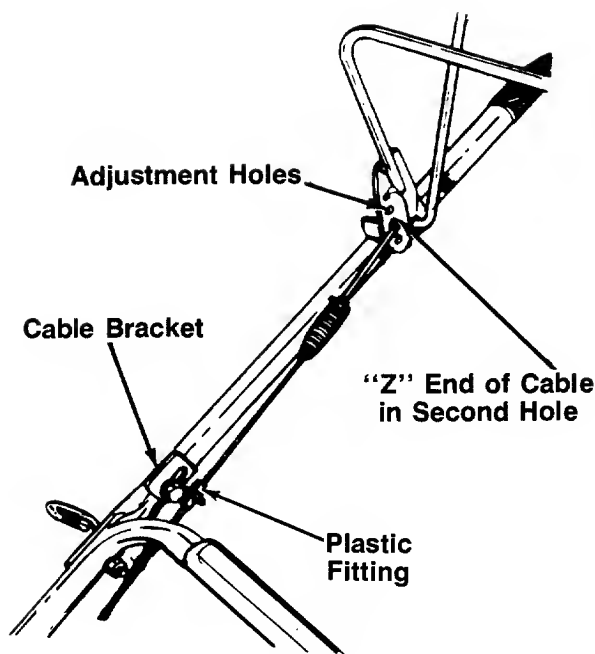

FIGURE 7.
1. The drive clutch control cable is attached to the drive cover, and has a spring on one end. Route the clutch cable inside the handle mount bracket and under the lower handle. Hook the spring on the end of the cable into the second hole from the bottom on the drive clutch control handle. See figure 7.
3. With the drive clutch control handle released, pull down on the cable and cable bracket until there is approximately 1/8" clearance between the drive pinions and the drive wheels. See figures 7 and 8. Tighten the cable bracket in this position.